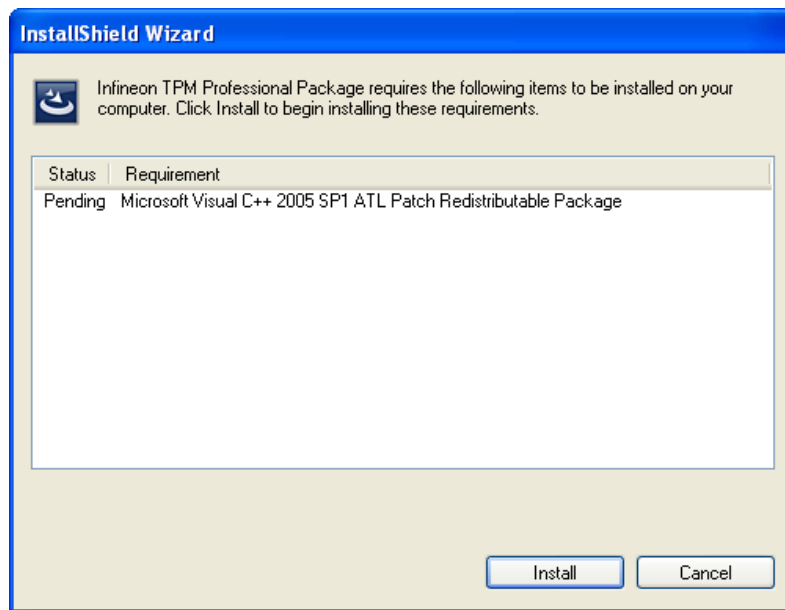

Figure 6-34: TPM Professional Package Screen
Step 4: The **TPM Professional Package Screen** in **Figure 6-34** appears.